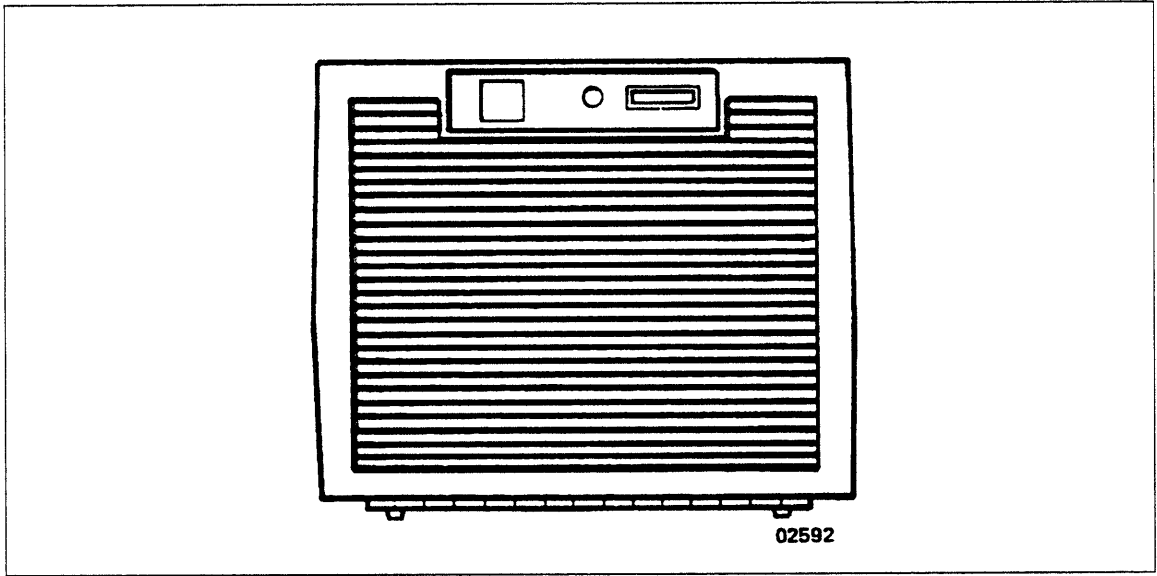

Figure 1-5. Device Interface
Figure 1-5 shows a device interface (DI). Several types of DIs can be configured. The purpose of each type is a function of both the physical configuration and the loaded software. Every DI has three basic components.